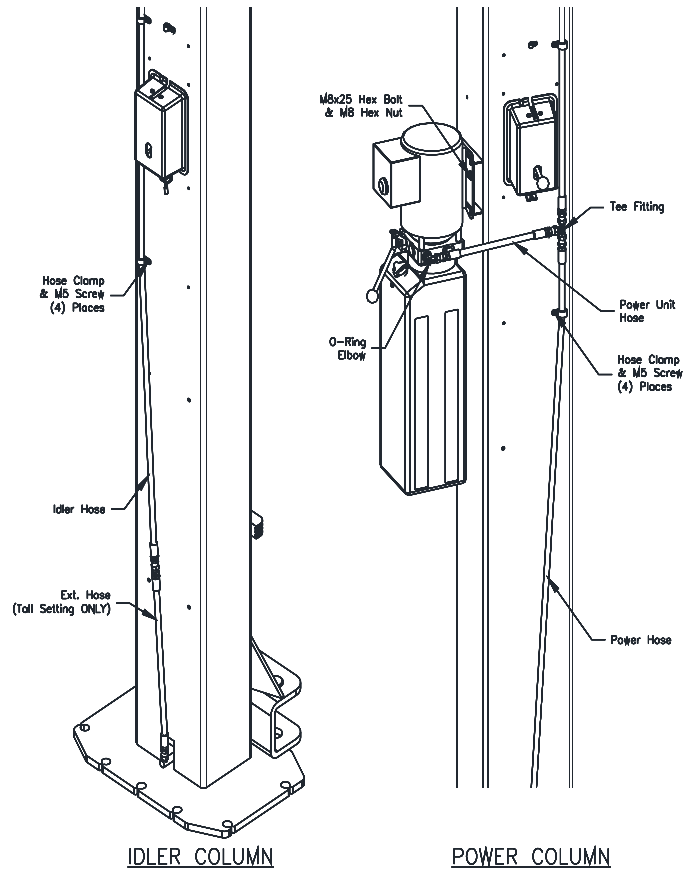

Fig. 7 – Hose Routing
- 26) Route the power hose from the power side cylinder elbow fitting up to the union tee provided. Connect idler hose and power unit hose to the union tee as shown in **Fig 7**.
- 21) Mount Power Unit to power column as shown in **Fig. 7** using (4) M8 hex bolts and nuts.